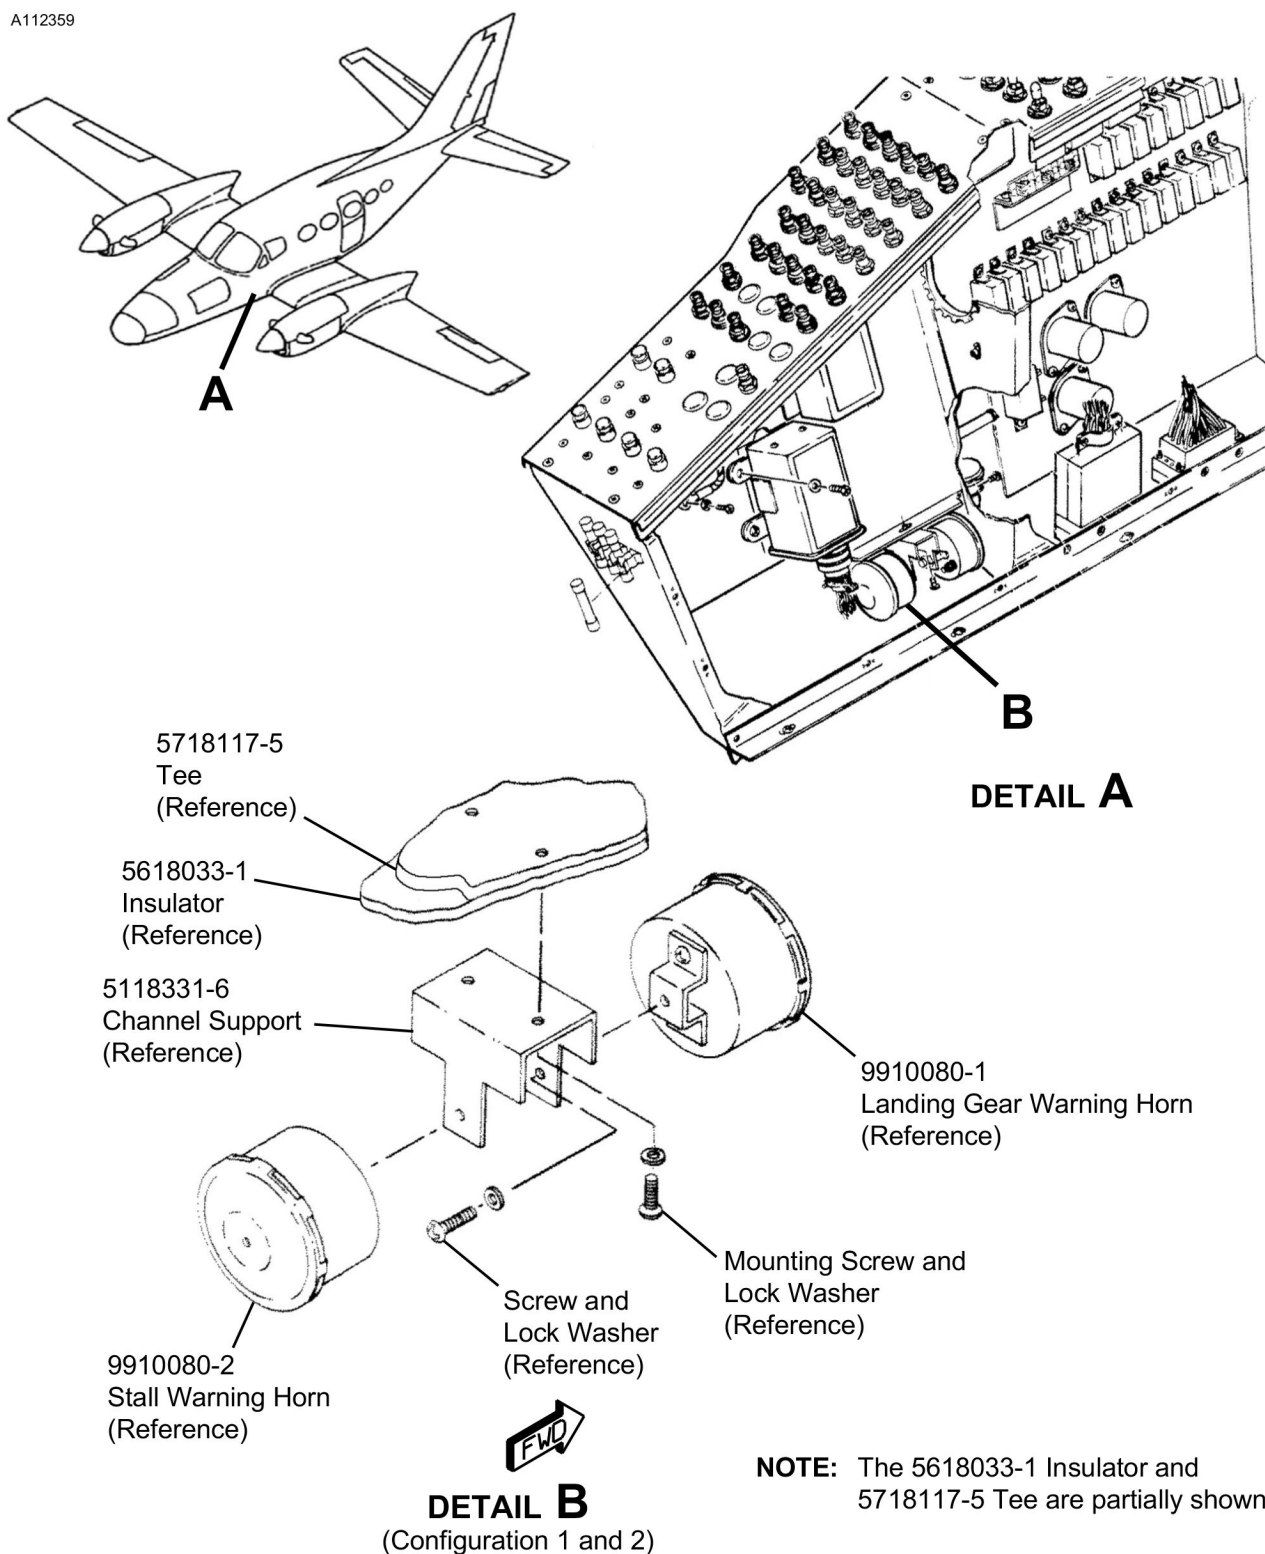

Figure 1. Before Modification (Sheet 1)
8. (Refer to Figure 1, Sheet 1.) Remove the 9910080-2 Stall Warning Horn as follows: